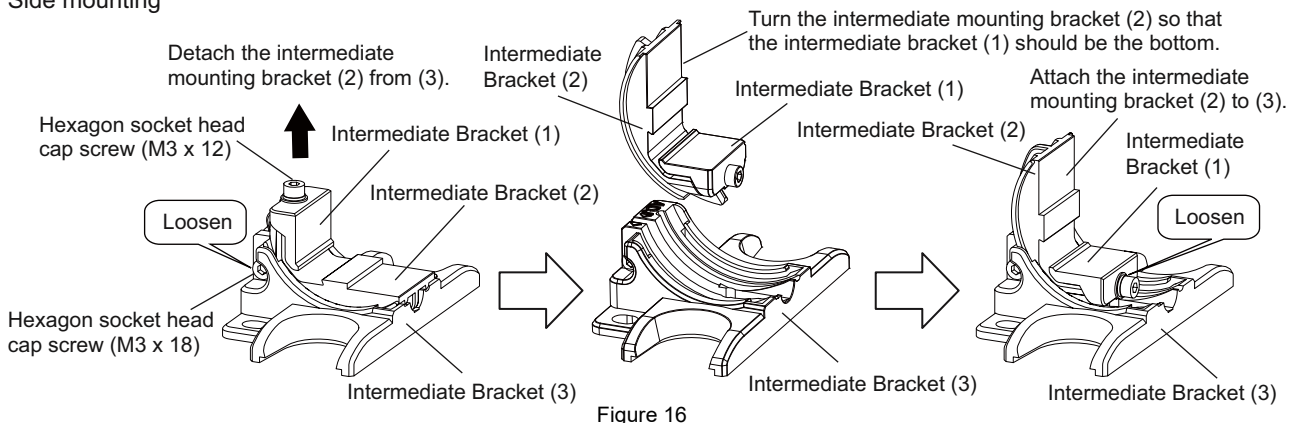

Figure 16
To use it for side mounting, remove the intermediate bracket (2) from the intermediate bracket (3) and change the direction of the bracket as shown in Fig.16.